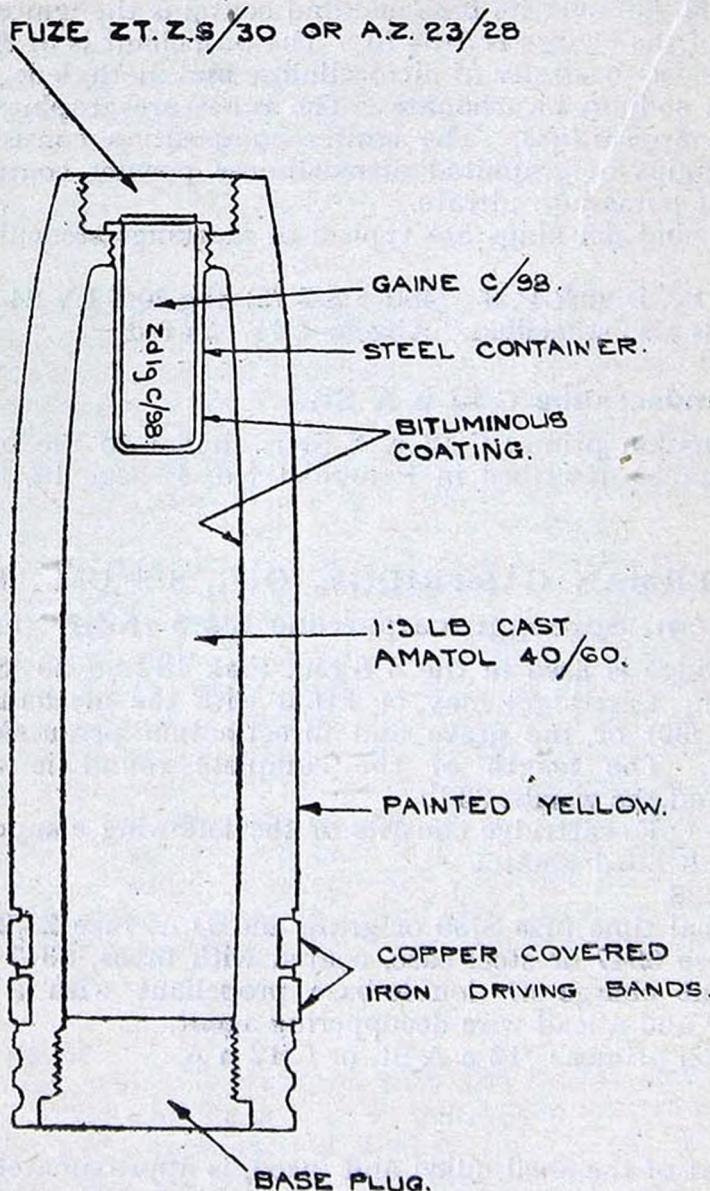

FIG. 12.—GERMAN SHELL, Q.F., 8.8 CM. H.E.
The shot is of the same construction as 4·7 cm. type described in Pamphlet No. 4, page 20 and Fig. 12, but has a reinforcing cap of thin sheet steel over the head of the plastic ballistic cap. The reinforcing cap is made up in two layers and extends about half-way down the plastic cap. A hole is drilled in the base of the body, presumably for the escape of air when the core is inserted.
(8.8 cm. Sprenggranatpatrone L/4.5 (KZ)) (FIG. 12)